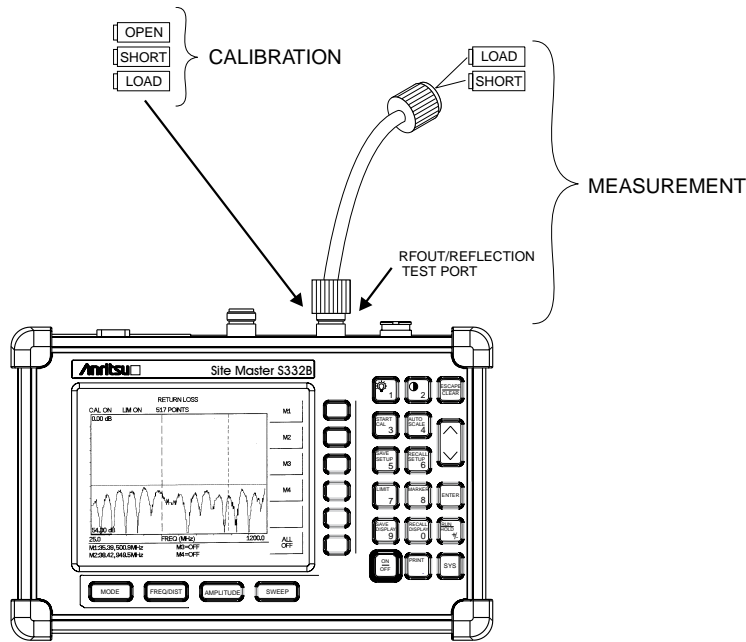

Figure 4-4. Cable Measurement Test Setup
Step 16. Connect the Load to the open end of the test port extension cable as shown in Figure 4-4.